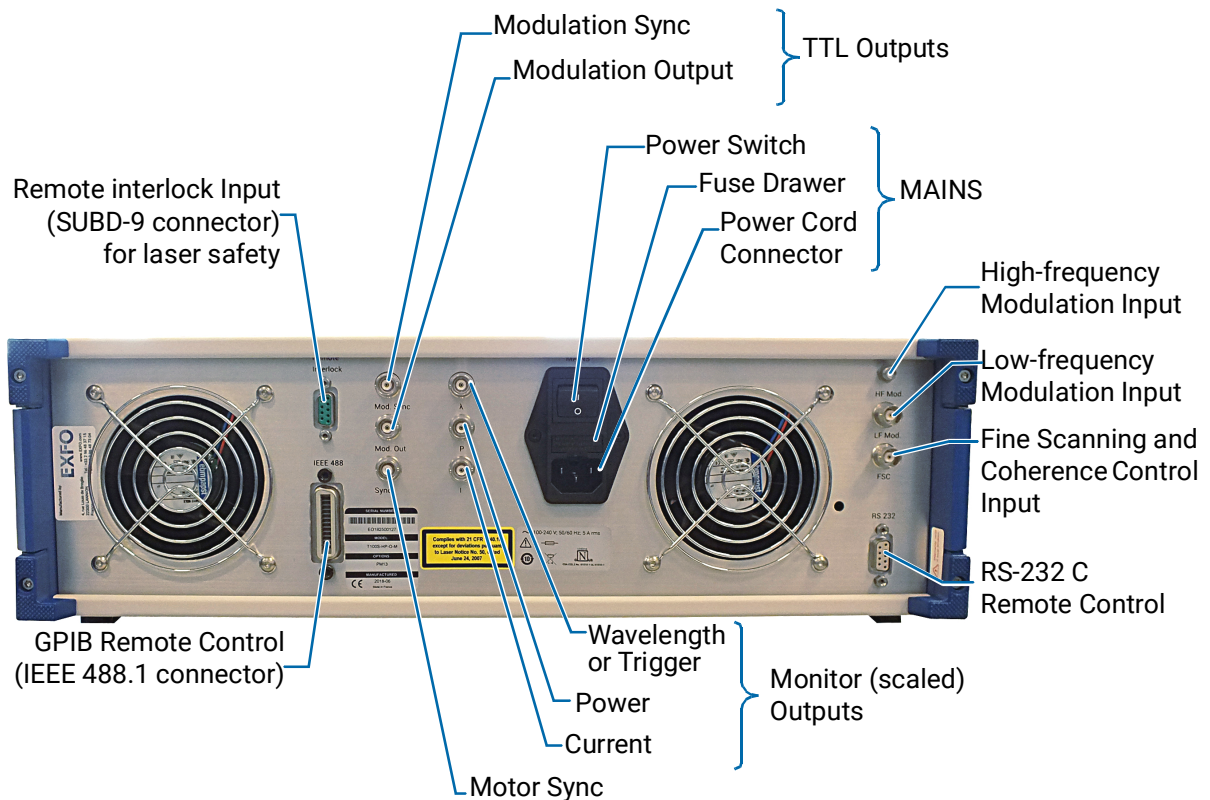

Figure 2: Rear Panel
5. On the rear panel (see *Figure 2, p. 18*), make sure the power switch is set to **0**.